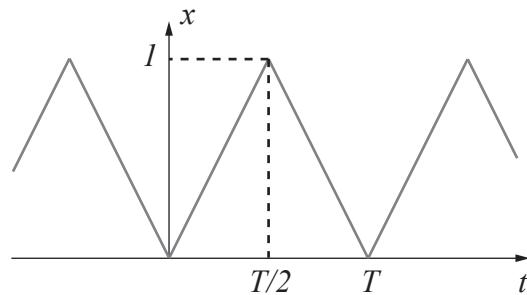

Figure 4: Signal of Pre-lab problem 1.3.b.
- What is the frequency domain representation of the triangle wave signal shown in Fig. 4?